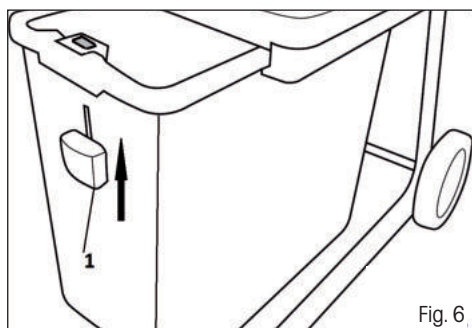

Fig. 6
3. Insert the collection box and lock in place using the safety mechanism. Fig. 6, point 1
- ⚙ For safety reasons, the handle of the collection box (Fig. 6, point 1) is equipped with a safety lock.